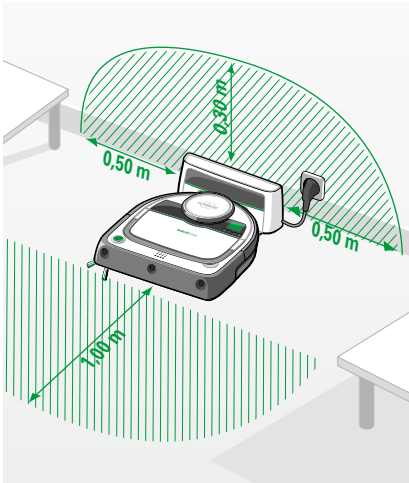

Figure 2.4 Installing the mains cable
- Place the base station on a level surface next to a wall so that the charging contacts and infrared window are freely accessible for the Kobold VR200 Robot Vacuum Cleaner (Figure 2.4). Ideally there should be no height differences or obstacles 0.3 m above, 0.5 m to the left and 0.5 m to the right of the base station.